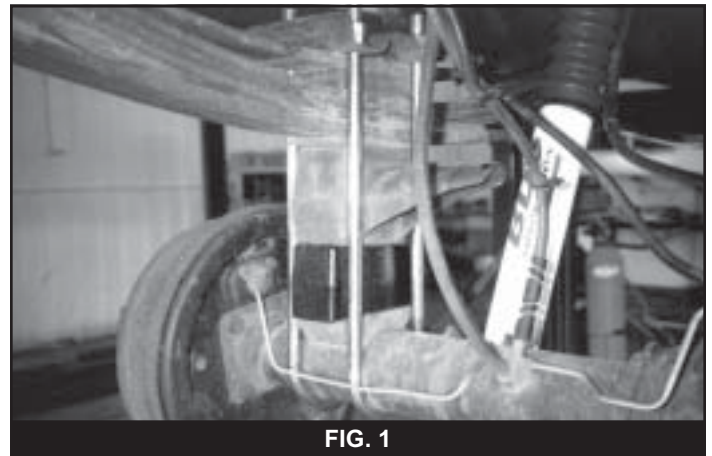

FIG. 1
8. Install the 3" block between the original block and the axle. Be sure to inspect the perch on the axle to insure that it is flat and in good condition. Be sure the block pins line up (Fig. 1)
2. Disconnect the track bar bracket from the frame by removing the three mounting bolts (Fig. 1). Retain hardware.